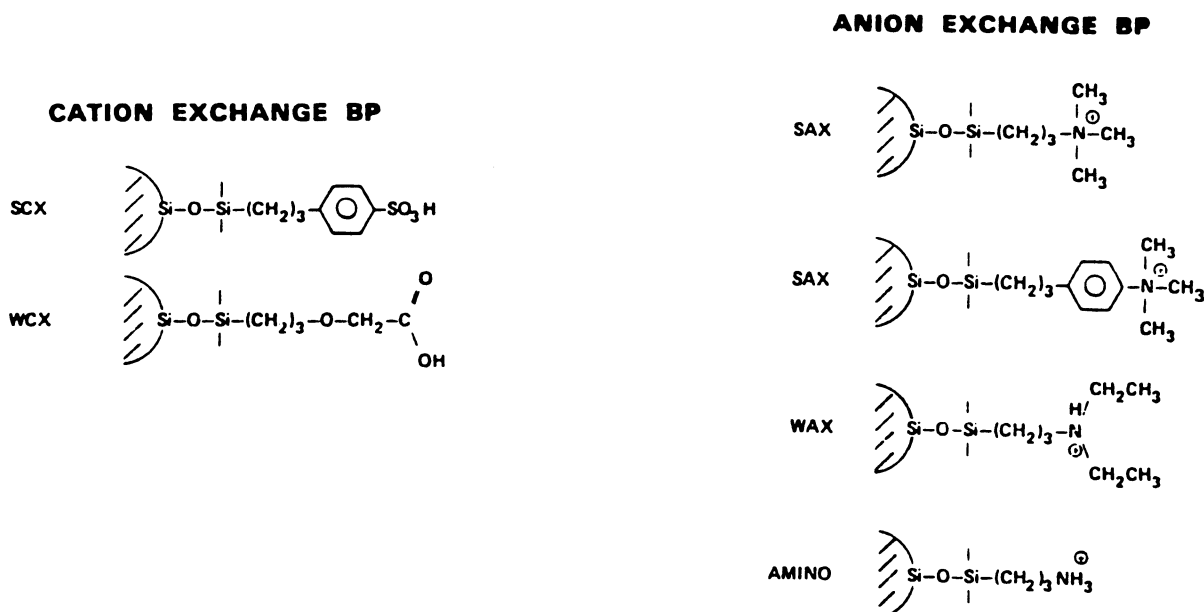

FIGURE 4
6. There are a number of cation and anion bonded phases and even a number of particle and pore sizes. (See Figure 4 for structures).